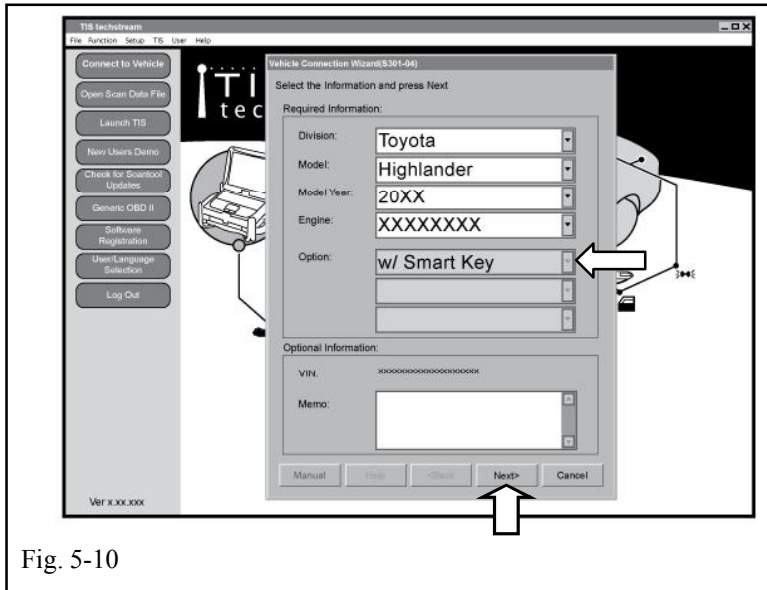

Fig. 5-10
- (q) Confirm that the information displayed on the Vehicle Connection Wizard is correct for the vehicle. If not verify that the Techstream is properly connected. (Fig. 5-10)
- (r) Select w/Smart Key. (Fig.5-10)
- (s) Click “Next>.” (Fig. 5-10)